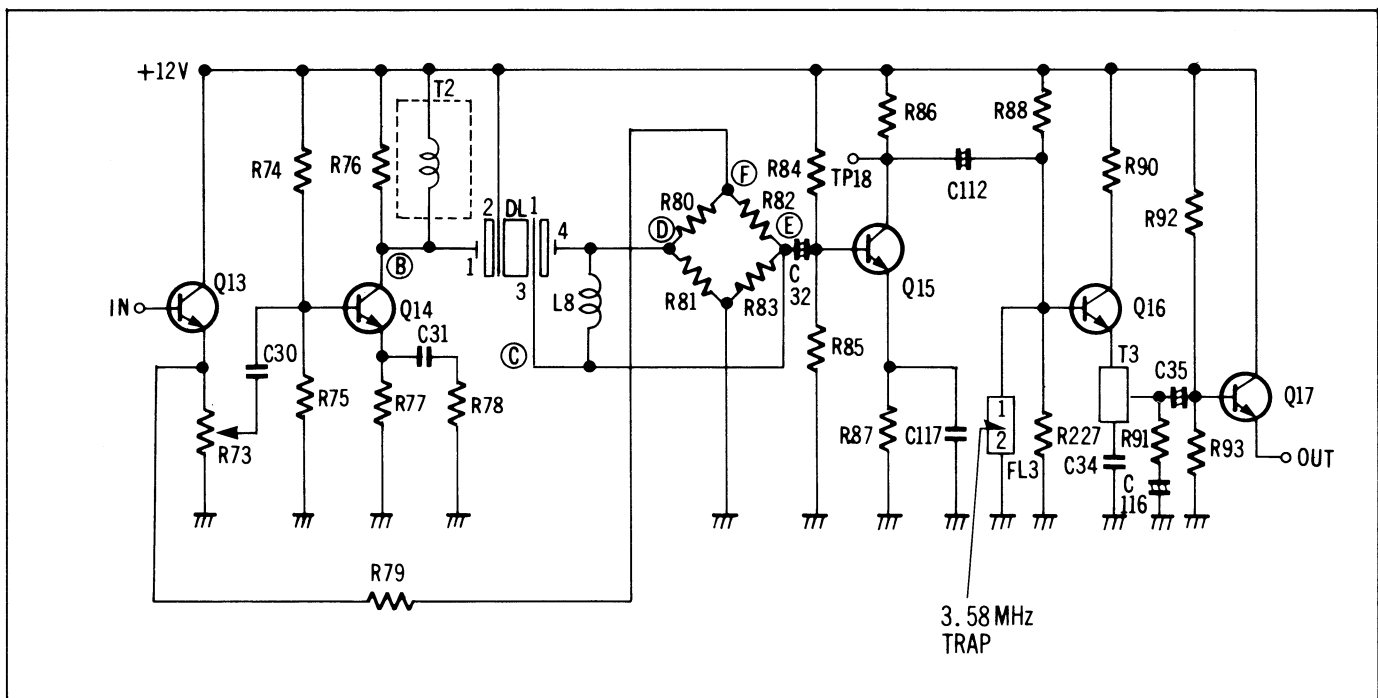

Figure 2-60
As shown in Figure 2-60, the NTSC color signal is buffered by Q13 and supplied to point (F) through R79, and to the base of amplifier Q14, through the limited coupling circuit (C30).